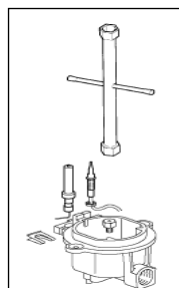

Fig 4
- Unscrew the nozzles using a 7 mm spanner, and replace them (Fig.4) with those needed for the new type of gas accordingly.